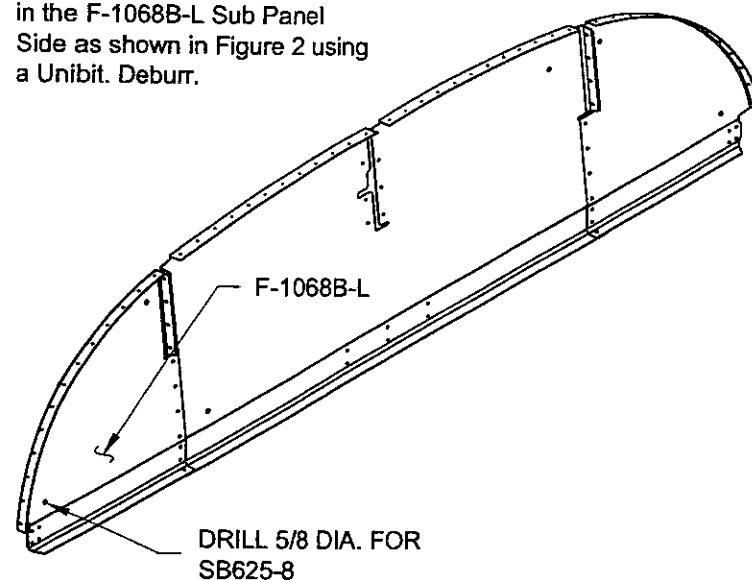

FIGURE 2:
Step 2: Enlarge the tooling hole in the F-1068B-L Sub Panel Side as shown in Figure 2 using a Unibit. Deburr.